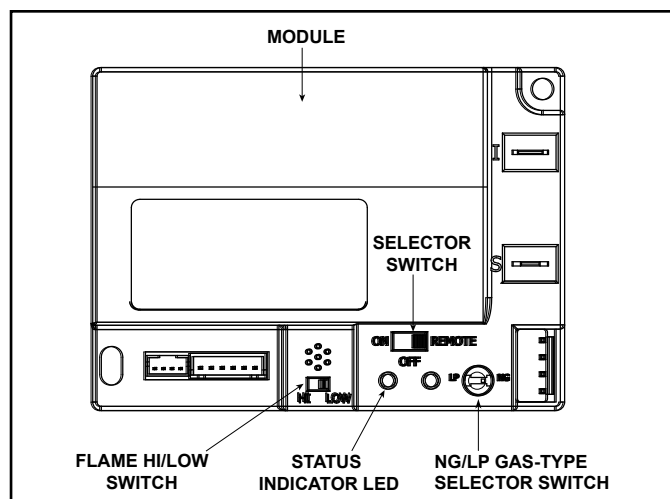

Figure 3.8 Control Module
1. The control module has an ON/OFF/REMOTE selector switch that must be set. See Figure 3.8.
2. If using a wired wall switch with the module in REMOTE mode, the flame output can be adjusted with the HI/LO selector switch on the module. See Figure 3.8. Note that the flame HI/LO selector switch will become inactive once an optional remote control (RC200/RC300) is programmed to the control module. Note that the control module will always ignite the fireplace on HI and remain so for the initial 10 seconds of operation. If the HI/LO is switched to the LO position, the flame output will automatically drop to the lowest setting after the flame has been established for 10 sec. After this 10 second period, the flame can be adjusted from HI to LO with the switch.
- Locate the module selector switch. (See Figure 3.8).
- Wait five (5) minutes to allow possible accumulated gas to clear.